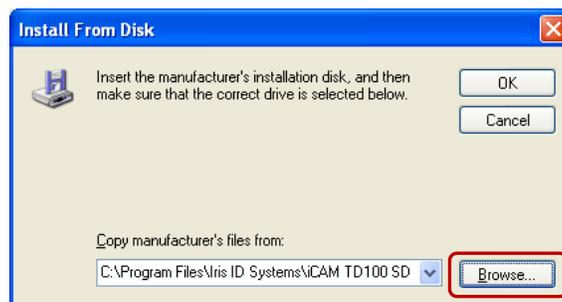

Fig. 10
6. Press > **“Browse...”** as shown in Figure 10